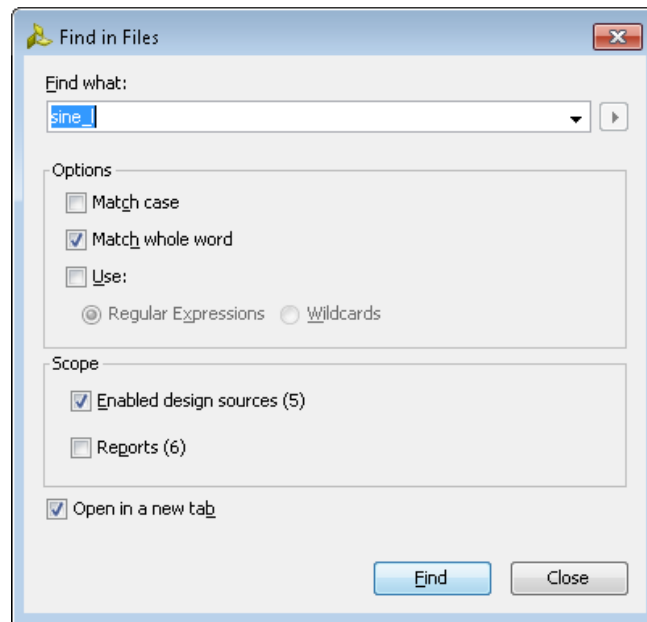

Figure 30: Find in Files
6. Select the **Match whole word** and **Enabled design sources** checkboxes, as shown in Figure 30, and click **Find**.